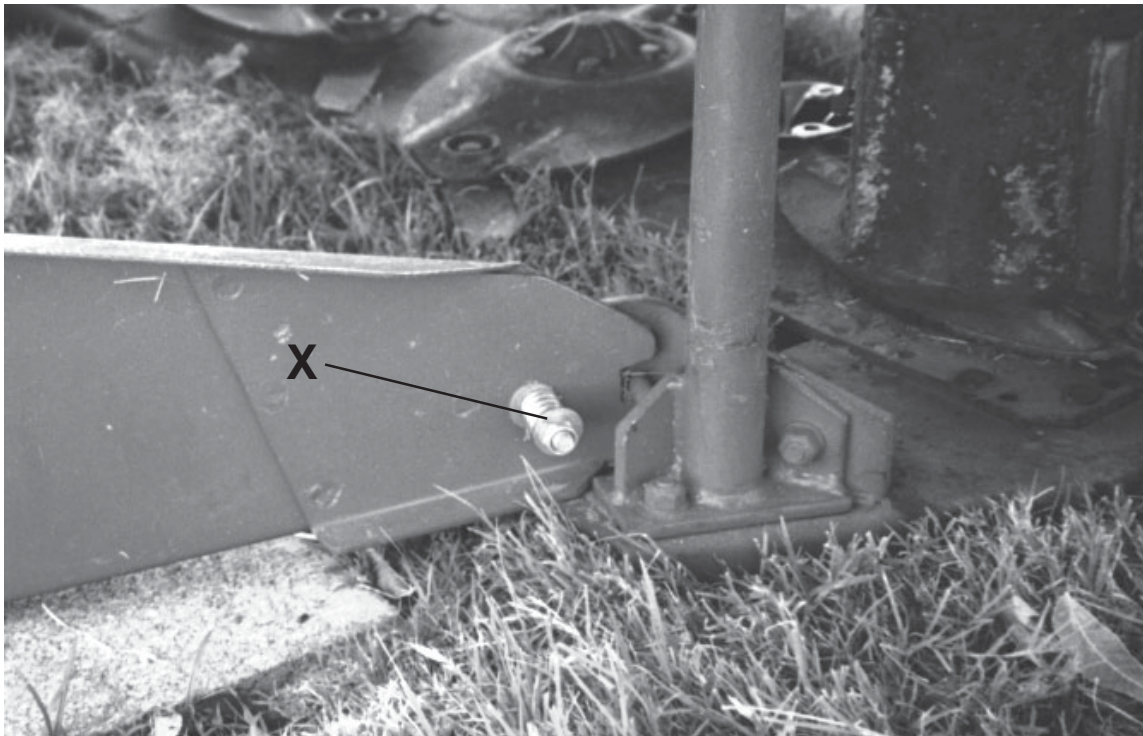

Figure 18
A Compression Spring (X) on the swath board provides enough pressure to keep the board in place while allowing the board to flex if an obstruction or heavy build-up of material is met. It may be necessary to increase the tension of spring by tightening the nut on the carriage bolt securing the swath board. (See **Figure 18.**)